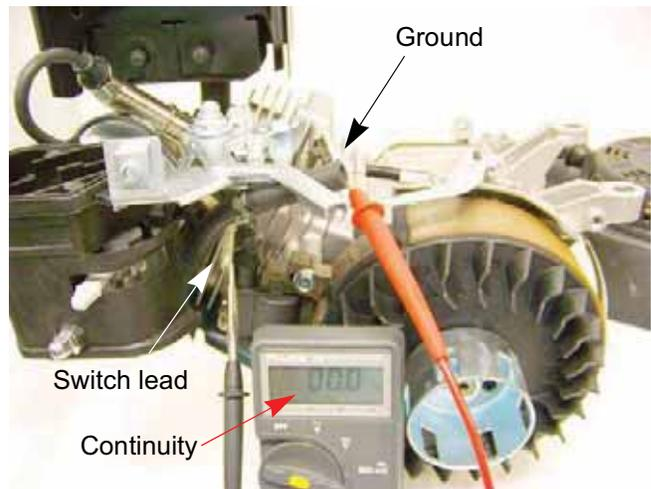

Figure 7.3
- When the throttle is all the way to the right (stop), the multimeter should read at or near  $0.0\Omega$ , indicating continuity. See Figure 7.3.